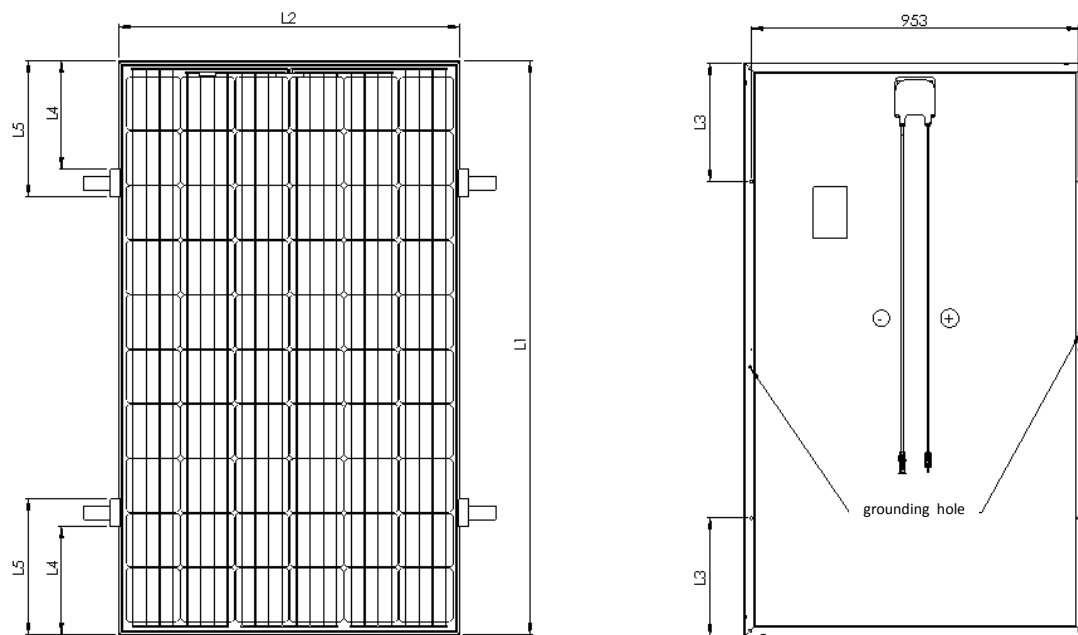

Figure 1: Attachment points for the PV module
- When using clamps to mount the modules, the contact surface should be 800mm² per clamp. Mounting systems recommended by authorised expert retailers must be used for this. These must be installed as presented in the shaded area in Figure 1.
- The modules must be mounted at the 4 specified positions as demonstrated in Figure 1 and written in table 1.
- The modules must be earthed through the provided holes on the frame of the module (see Figure 1) or in a proper manner through other electrically conductive materials, such as the supporting structure. This may only be performed by a qualified specialist.